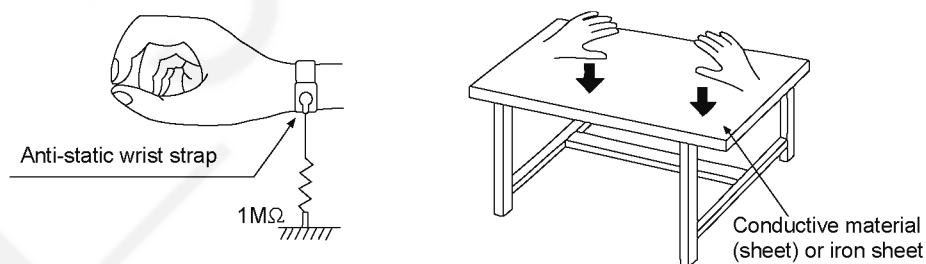

Figure 2-3
- Use the anti-static wrist strap to discharge the static electricity from your body (Figure 2-3).